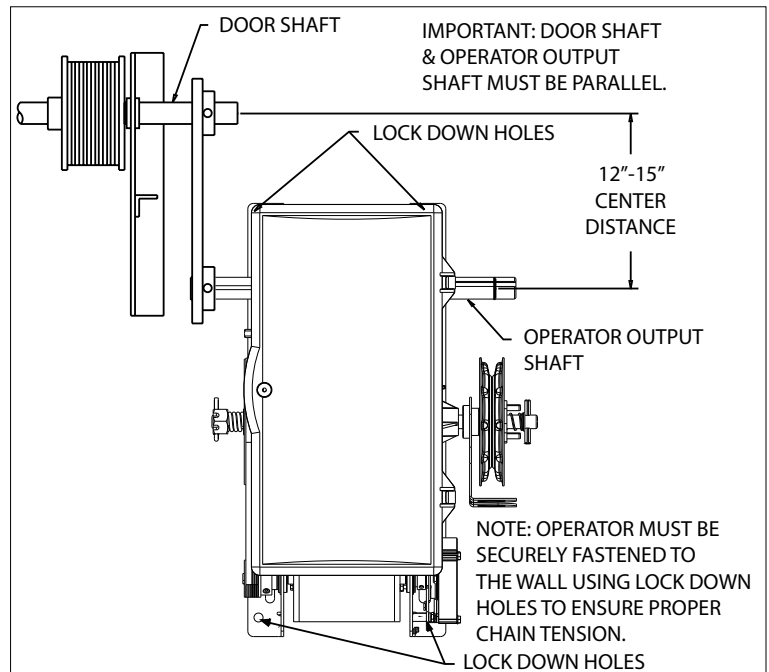

FIG. 2
8. Align chain and secure operator to wall or mounting pad using lock down holes. FIG. 2.
**NOTE:** If using slotted mounting holes to mount unit, you must use at least 2 lock down holes in opposite corners to firmly mount unit to wall. FIG. 2.